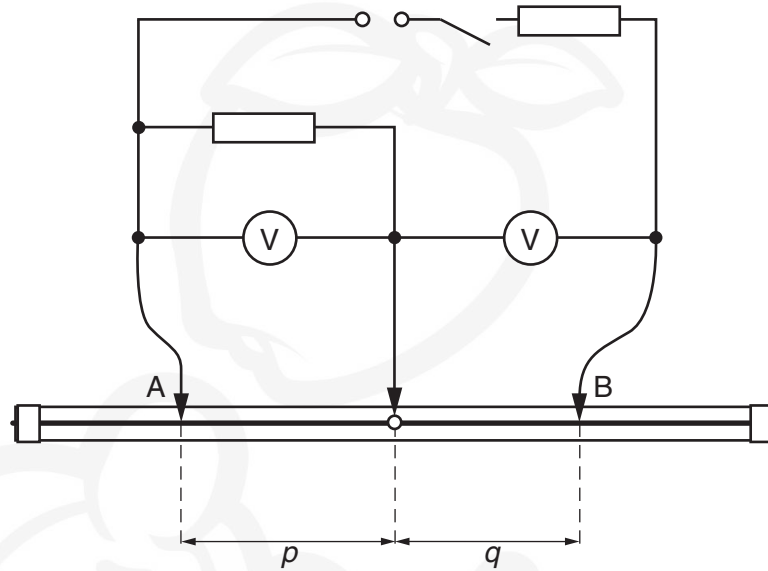

Fig. 1.2
- (ii)** Connect A to the wire at a distance p of approximately 25 cm from the screw, as shown in Fig. 1.2.
The distance between the screw and B is q , as shown in Fig. 1.2.